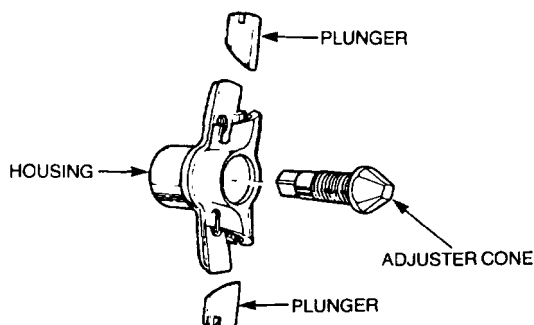

Figure 117 Adjuster Exploded View
- k. Remove the cone from the housing (Figure 117).